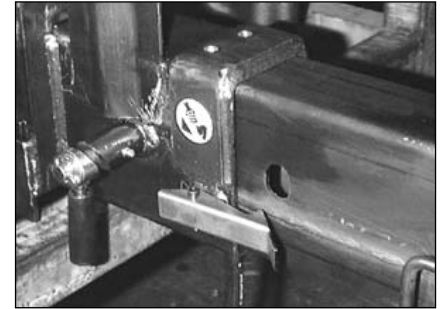

fig. 8b
- Position the lever **B** (fig. 8b) downwards; the locking loaded security device remains released.